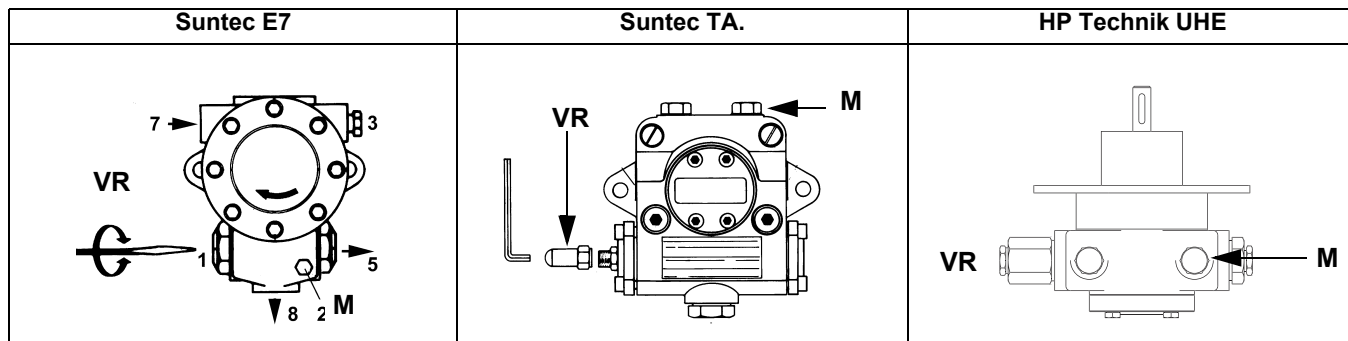
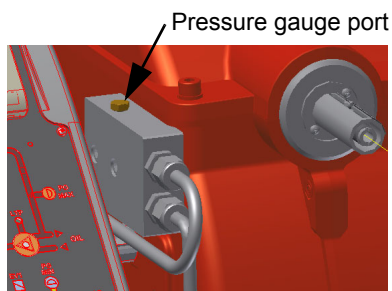

Fig. 7
Fig. 8
- 3 bleed the air from the **M** pressure gauge port (Fig. 7) by loosening the cap without removing it, then release the contactor.
- 5 Only if necessary, adjust the supply pressure as follows (see related paragraph); insert a pressure gauge into the port shown on Fig. 8 and act on on the pump adjusting screw **VR** (see Fig. 7) as to get the nozzle pressure at 20bar (Monarch or Fluidics nozzles - see page 40-38).